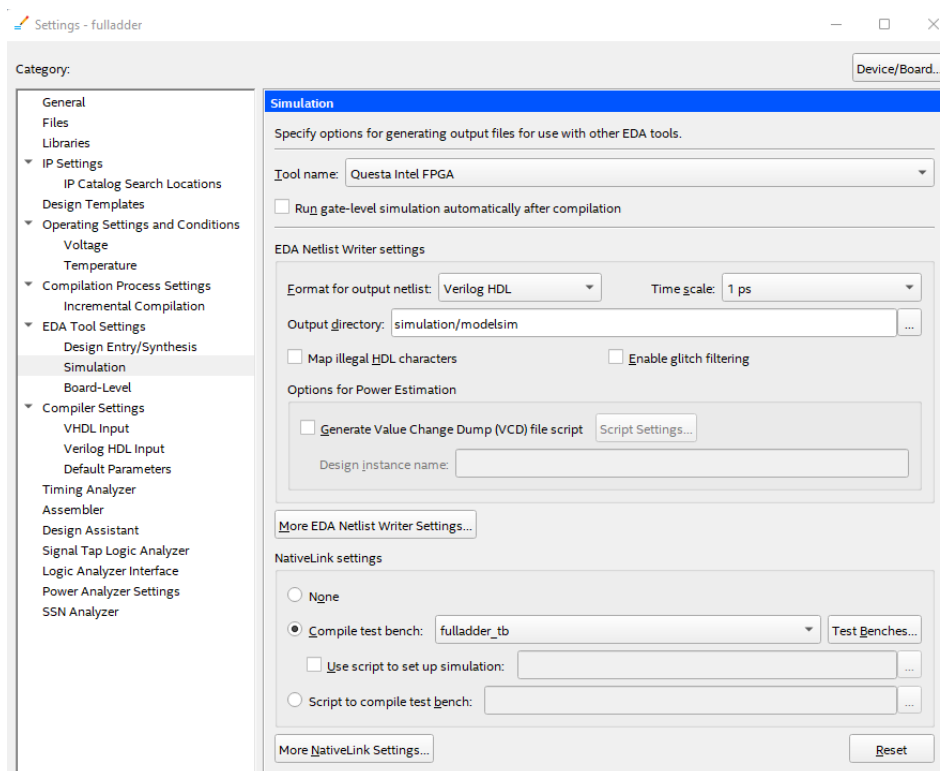

Fig. 1.15 Settings – simulation
- Now the settings will look as in Fig. 1.15. Click **OK**